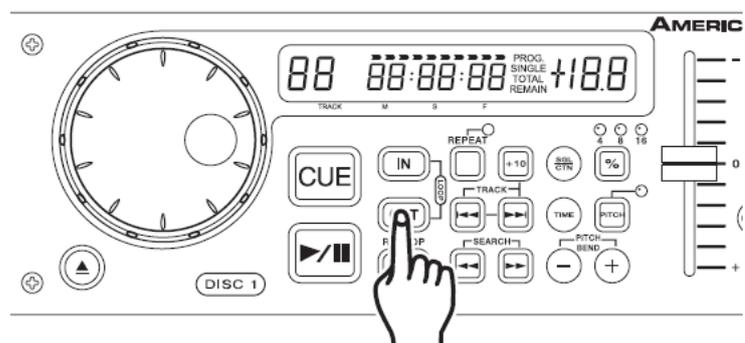

Figure 18
Press the OUT button (11) to set the ending point for your LOOP (Figure 18). The IN and OUT buttons will stay lit indicating a LOOP is playing. Press the OUT button again to cancel the Loop.
Press the OUT button (11) again when you reach your new ending point (**Figure 18**).
- **For a shorter Loop:** Press the OUT button (11) at sooner point in the track (**Figure 18**).
- **For a longer Loop:** Press the OUT button (11) at later point in the track (**Figure 18**).